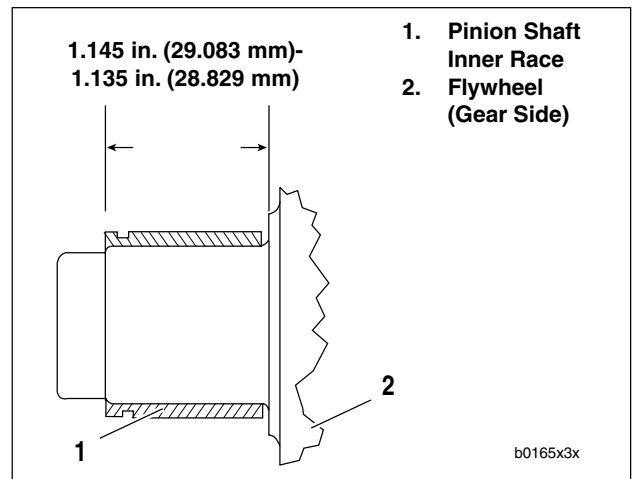

Figure 3-88. Inner Race Location
See Figure 3-88. Pinion bearings are identified as shown.
8. See Figure 3-88. Press **new** inner race on pinion shaft as shown. The **new** inner race must be ground by a competent machinist to OD dimension range for the finished lapped ID of the outer race. See Table 3-13. The finished